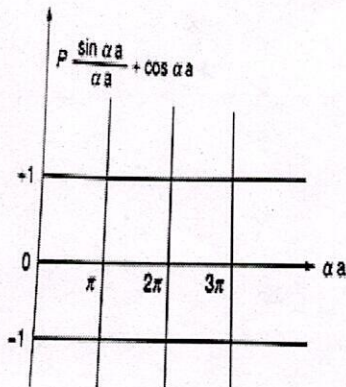
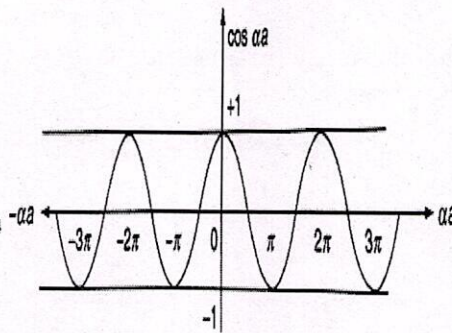

Fig.3
Fig.4
- (iii). As $P \rightarrow \infty$, the allowed energy band becomes infinitely narrow and the energy spectrum a line spectrum as shown in fig. 3.
- (iv) As scattering power (P) increases, the strength of potential barrier increases and the width of the allowed energy band decreases.
- (v) When $P \rightarrow 0$ then electrons move freely over the lattice without energy potential. Hence all the energies are allowed to the electrons and produce the continuous spectrum as shown in fig. 4